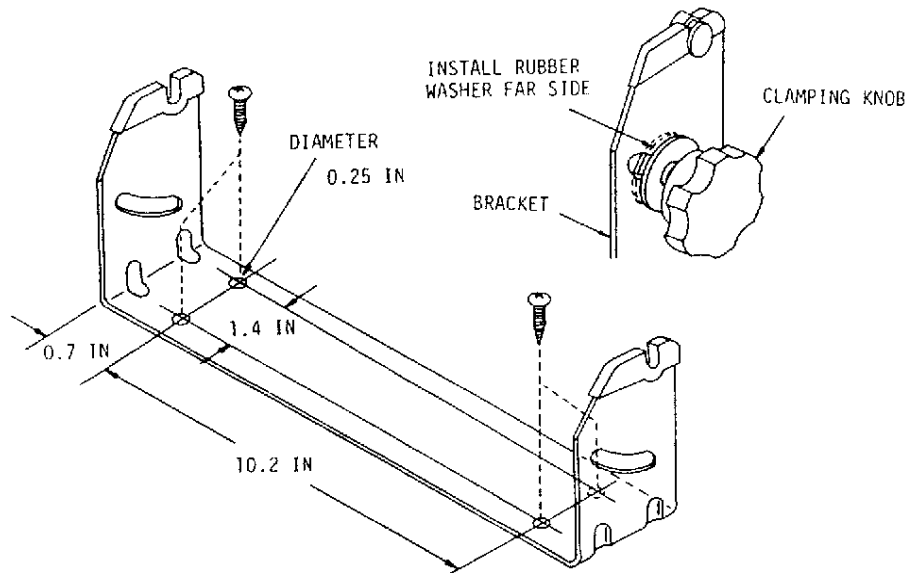

Figure 2-2. Installing the Recorder Mounting Brackets
See Figure 2-2 for Mounting Bracket dimensions and drilling.
2. Drill the proper size holes in the hole locations shown in Figure 2-2.